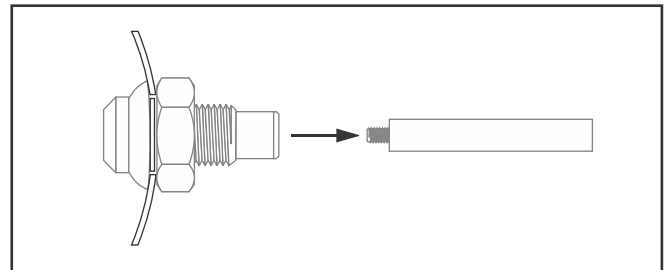

Fig. 46: Install Nut and Remove Handle
7. Install Nut: Next, slide the nut onto the handle and thread the nut until it contacts the duct. Final tightening is with a calibrated torque wrench to 15 in lbs. (Fig. 46)
8. Remove Handle: The removable handle may be left in place as a temporary plug. Remove the handle to access a 1/16" NPT tapped hole for installing a fitting of choice. The 3/8" Test Port may be counter drilled to a maximum bore of 3/8" ID for other installations. (Fig. 46)
- 7. Install Nut:** Next, slide the nut onto the handle and thread the nut until it contacts the duct. Final tightening is with a calibrated torque wrench to 250 in lbs. (Fig. 46)
- 8. Remove Handle:** The removable handle may be left in place as a temporary plug. Remove the handle to access a 1/4" NPT tapped hole for installing a fitting of choice. The 3/4" Test Port may also be drilled to a maximum bore of 3/4" I.D. for other installations.(Fig.46)
7. Install Nut: Next, slide the nut onto the handle and thread the nut until it contacts the duct. Final tightening is with a calibrated torque wrench to 400 in lbs. (Fig. 46)
choice. The 2" Test Port may also be drilled to a maximum bore of 1-3/4" ID for other installations.(Fig.46)